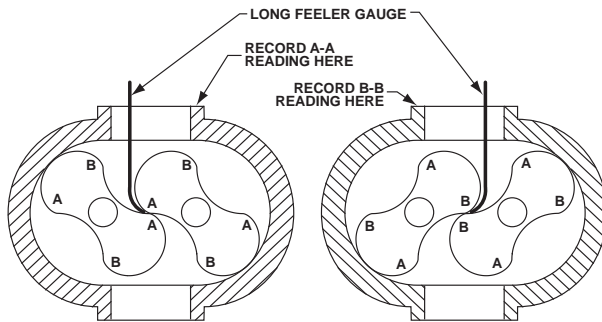

Figure 8-4 – Checking Rotor Interlobe Clearance
18. Using feeler gauges, take interlobe readings and record on each side of housing as indicated in **Figure 8-4**. By removing or adding shim behind the helical gear, it rotates as it is moved in or out and the driven rotor turns with it, thus changing the clearance between rotor lobes. Changing the shim thickness 0.006 in. (0.15 mm) will change the rotor lobe clearance 0.003 in. (0.08 mm) or one-half the amount.
EXAMPLE: Referring to **Figure 8-4**, check the clearance at AA (right-hand reading) and BB (left-hand reading). If AA reading is 0.009 in. (0.23 mm) and BB reading 0.003 in. (0.08 mm), by removing 0.006 in. (0.15 mm) shims, the readings will change one-half the amount removed or 0.003 in. (0.08 mm). AA should then read 0.006 in. (0.15 mm), and BB should read 0.006 in. (0.15 mm). The final readings should be within 0.002 in. (0.05 mm) of each other. To determine the amount of shim to add or remove, subtract the smaller figure from the larger one. If the right side reading is higher than the left side, remove shim. If the right side reading is lower, add shim.